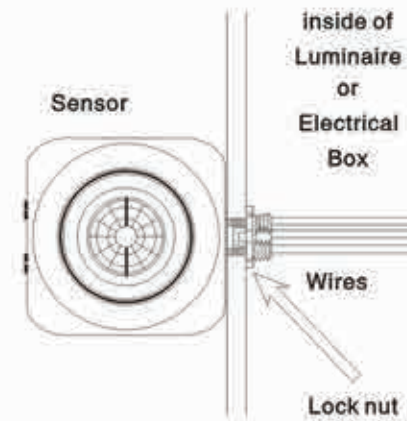

Fig 3A
- Slide the lock-nut over the wires and thread clockwise on to the threaded nipple to secure the sensor firmly in place making sure the lens is orientated towards the area to be monitored (field-of-view). (refer to Fig3A)